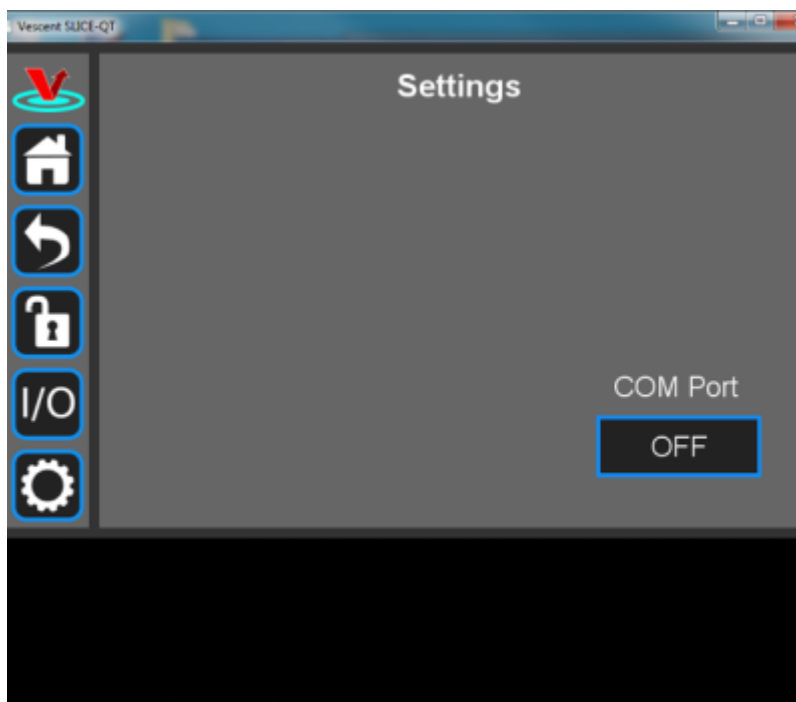

Fig. 43: Settings screen when viewed by GUI
6. On the SLICE-QT GUI, click on the Settings icon to get to the window shown in figure 43.